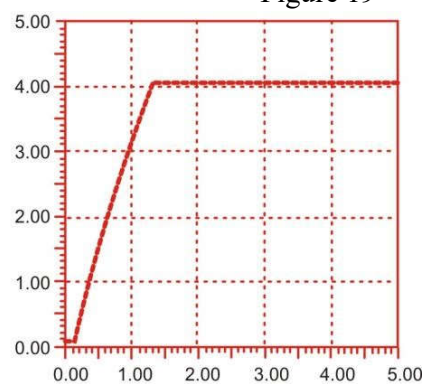

Figure 21
4. Check the transient response of 1st order system output on Digital storage oscilloscope; you will observe the response as shown in figure 21. You can easily observe the effect of PID by adjusting  $K_p$ ,  $K_i$  &  $K_d$  knobs.